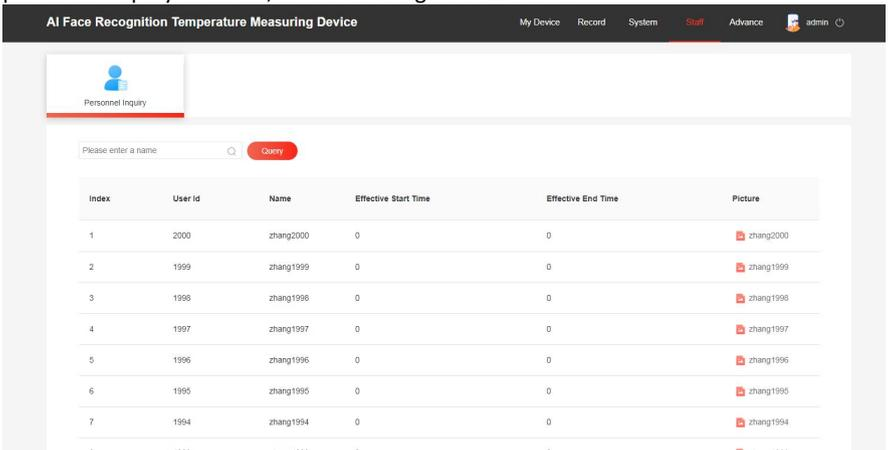

Figure 7-22
Step 1: After logging in to the web page, click "Staff → Personnel Inquiry" to enter the personnel inquiry interface, as shown in Figure 7-22 below.